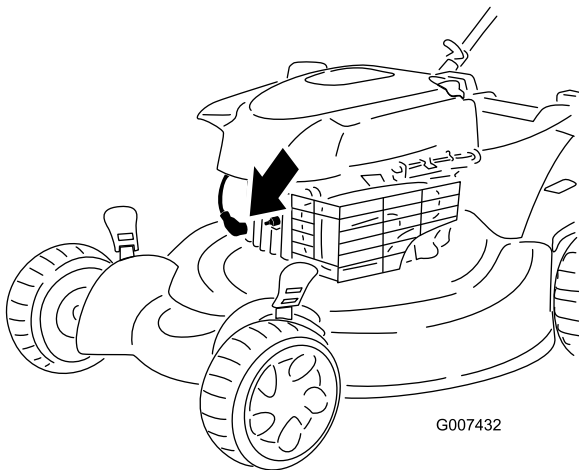

Figure 31
2. Disconnect the spark plug wire from the spark plug (Figure 31) before performing any maintenance procedure.